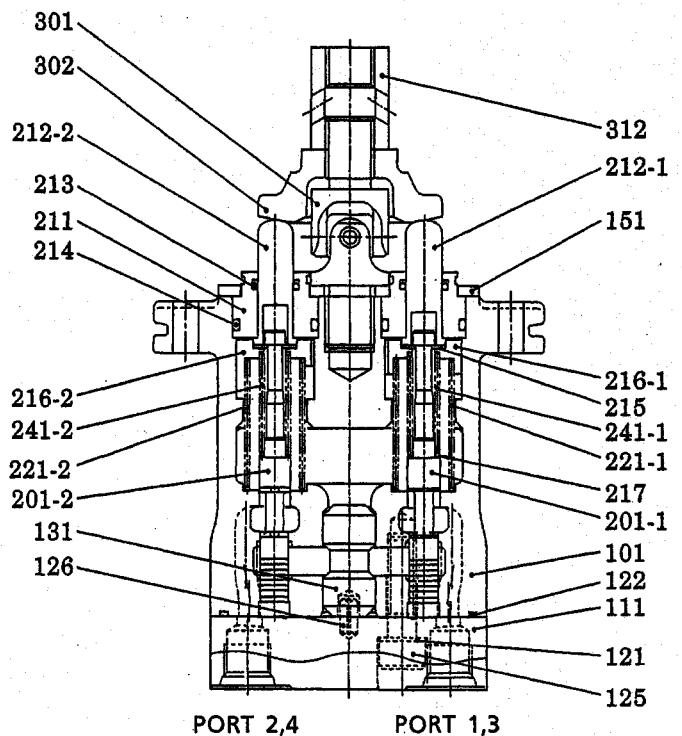

Fig. 10 Installation
3.4 INSTALLATION (SEE FIG. 10)